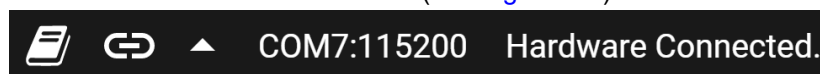

Figure 4-6. Hardware Connected
2. With the EVM connected to the GUI, close the README.md file page. The text near the bottom-left hand corner of the GUI should read *Hardware Connected* (see Figure 4-6).